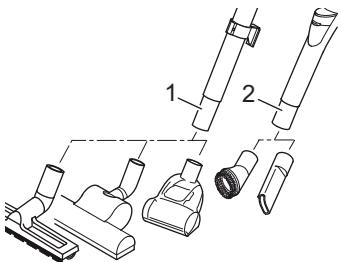

Fig. 9
3. Attach the desired nozzle to the bottom end of the telescopic tube (Fig. 9/1) or if necessary directly to the handle (Fig. 9/2).